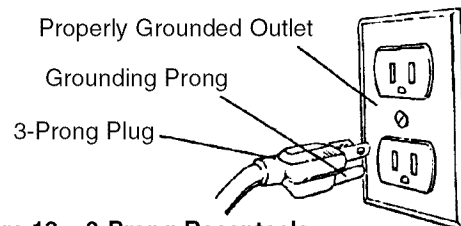

Figure 12 – 3-Prong Receptacle
- This tool is equipped with an approved cord rated at 150V and a 3-prong grounding type plug (See Figure 12) for your protection against shock hazards.
- Grounding plug should be plugged directly into a properly installed and grounded 3-prong grounding-type receptacle, as shown (See Figure 12).